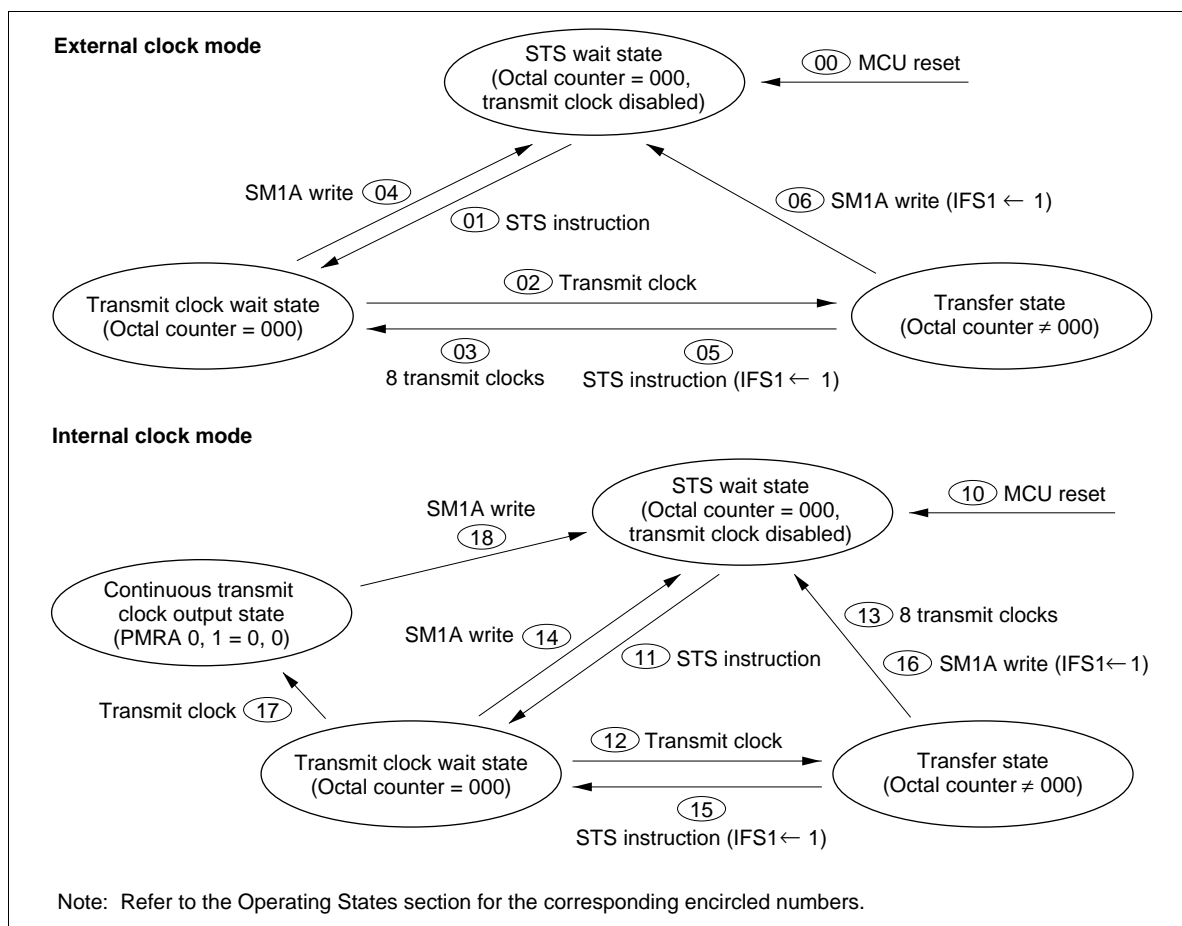

Figure 50 Serial Interface State Transitions
Operating States: Serial interface 1 has the following operating states; transitions between them are shown in figure 50.
- STS wait state: The serial interface enters STS wait state by MCU reset (00, 10 in figure 50). In STS wait state, serial interface 1 is initialized and the transmit clock is ignored. If the STS instruction is then executed (01, 11), serial interface 1 enters transmit clock wait state.
- Transmit clock wait state: Transmit clock wait state is between the STS execution and the falling edge of the first transmit clock. In transmit clock wait state, input of the transmit clock (02, 12) increments the octal counter, shifts serial data register 1 (SR1L: \$006, SR1U: \$007), and enters the serial interface in transfer state. However, note that if continuous clock output mode is selected in internal clock mode, the serial interface does not enter transfer state but enters continuous clock output state (17).